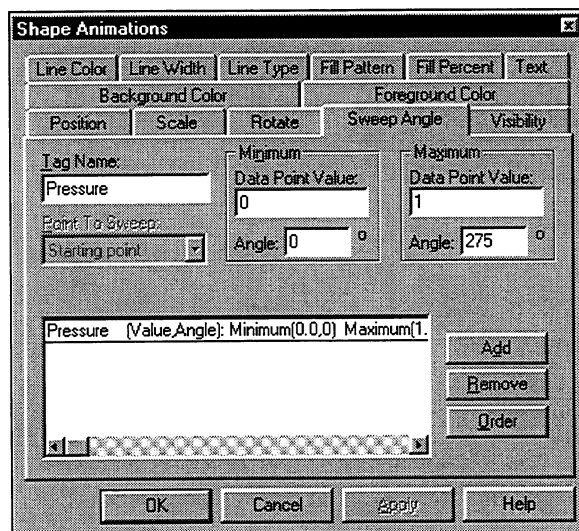

Figure 4-31. Configuring a Sweep Angle Animation
18. Click Add to add the animation to the list box, as shown in Figure 4-31.